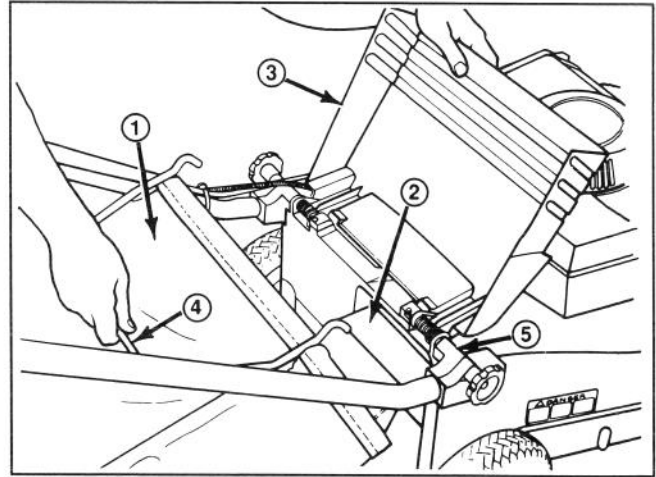
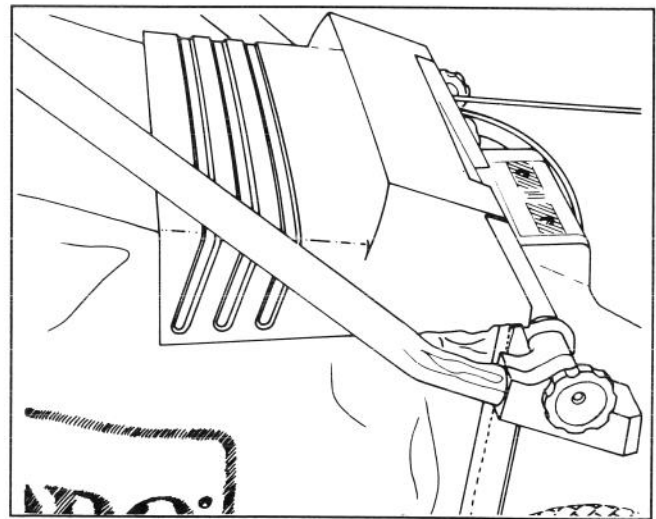

Figure 11
Figure 12
2. INSTALLING BAG—Raise discharge door, slide bag ramp attached to bag into discharge opening, and hook bag frame onto mounting brackets (Fig. 11). Allow discharge door to rest on top of bag (Fig. 12).